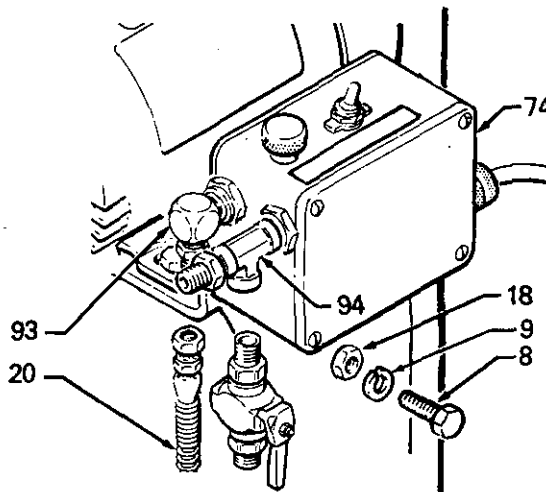

Fig 9
Disconnect the spray hose from the tee (94). See Fig 9. Disconnect the hose (20) from the elbow (93).